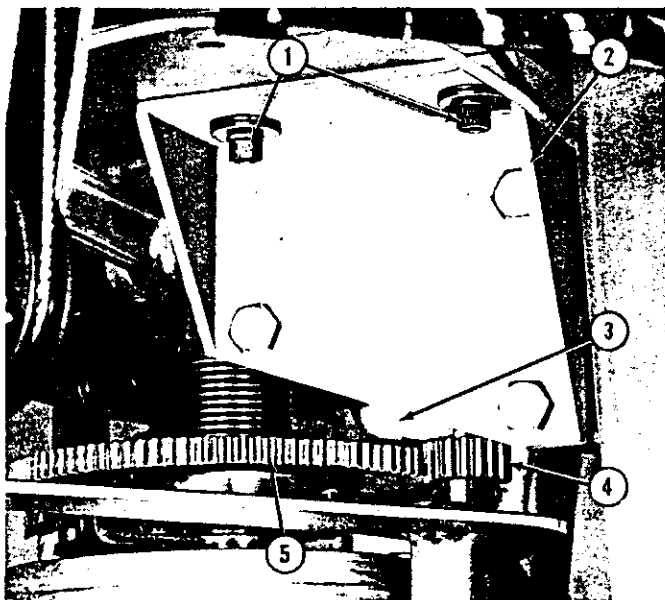

Fig. 94. MAIN SHAFT DRIVE GEAR AND PINION
(3) Tighten the three mounting screws, re-check the setting, and re-install the motor and mounting plate assembly.
y. Main Shaft Drive Gear and Pinion Adjustment. (Fig. 94)
The mounting bracket (Item 2, Fig. 94) for the record changer motor is provided with one elongated mounting hole to permit adjustment of the depth of mesh of the drive pinion (Item 4) with the main drive gear (Item 5). Mesh adjustment may be accomplished as follows: